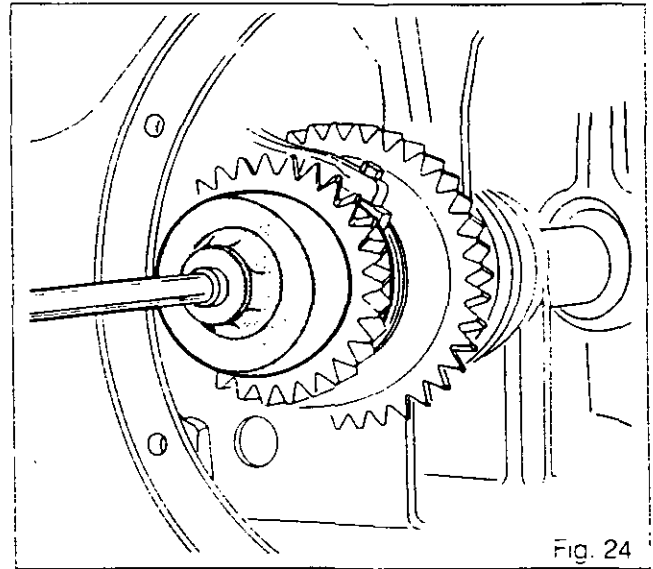
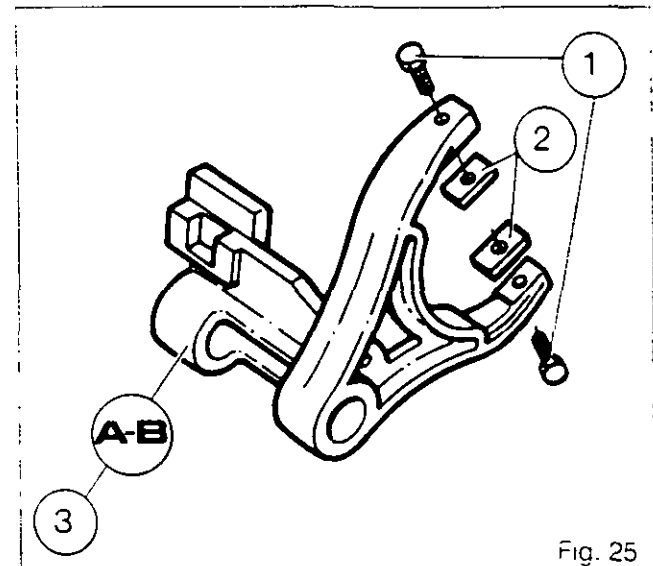

Fig. 24
Fig. 25
65. Remove the lock from the nut (68) and slacken the nut using spanner MF 456 (Fig. 24)
66. Remove the spur washer (73), B gear (76) with the needle roller bearing (75) and bush (74)
67. Slacken the two screws (1) attaching the pads (2) to the A/B fork (3) (Fig. 25).